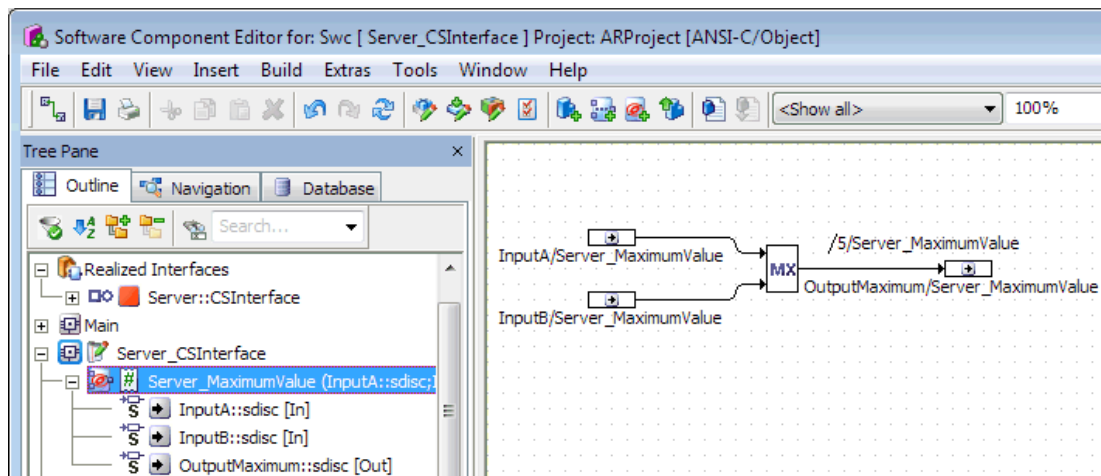

Figure 64: Implementation of the operation `Server_MaximumValue` in the diagram `Server_CSInterface`
- Implement the operation `Server_MaximumValue` as shown in Figure 64.